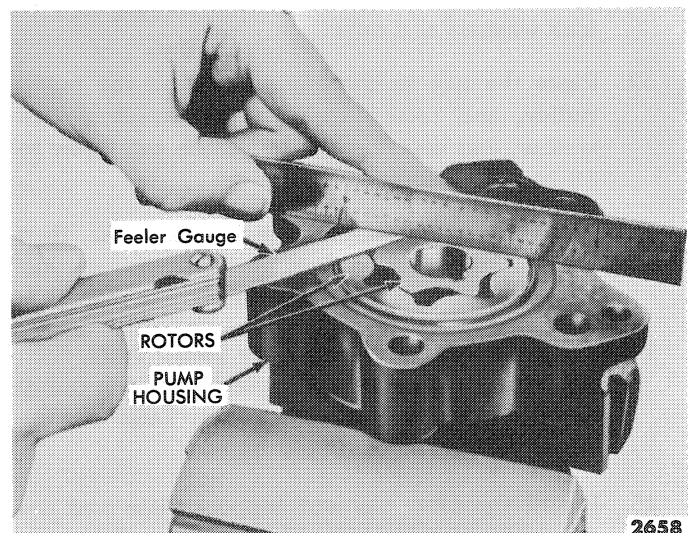

Figure 12—Checking Rotor to Pump Body Clearance
- c. Check the clearance between the top of the rotors and the surface of the pump body with a feeler gauge and a straight edge as shown in Figure 12. If the clearance exceeds 0.0025 inch, replace the pump body and rotor assembly.